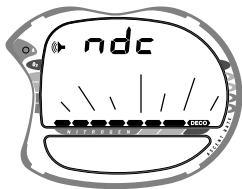

Fig. 31 - Set Max Nitrogen Bar Graph Alarm
- The graphic **ndc** and Alarm icon appear with the full **Nitrogen Bar Graph** flashing (Fig. 31).